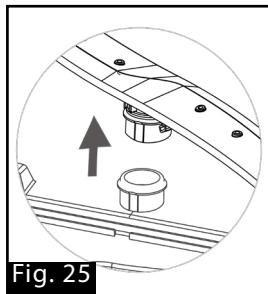

Fig. 25
6. Pull the main basket out of dishwasher and lift the lower spray arm a little bit to loosen the clip (Fig. 25).